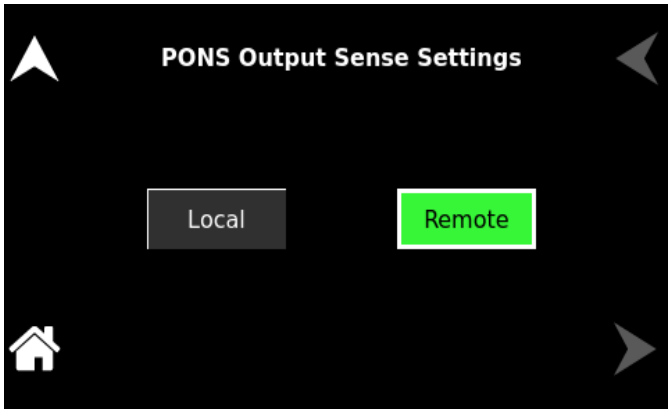

Figure 11-66. PONS Output Sense Settings
**PONS Output Sense**      User can program the PONS output to ON or OFF state Refer to Figure 11-66.